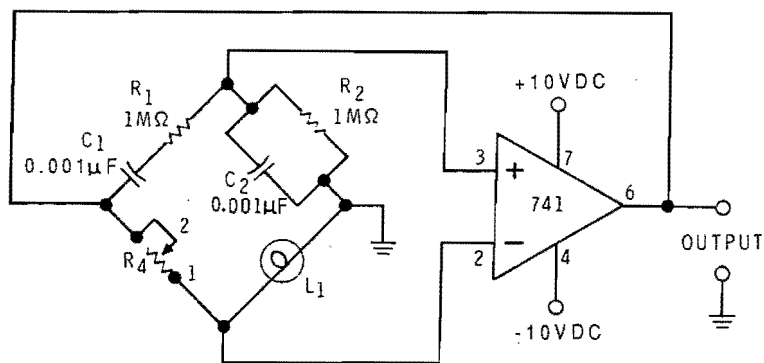

Figure 5-61
15. Turn off the Trainer and modify the bridge circuit as shown in Figure 5-61. Replace the 100 kilohm resistors in the lead-lag network with 1 megohm resistors. This should \_\_\_\_\_ the oscillator frequency.